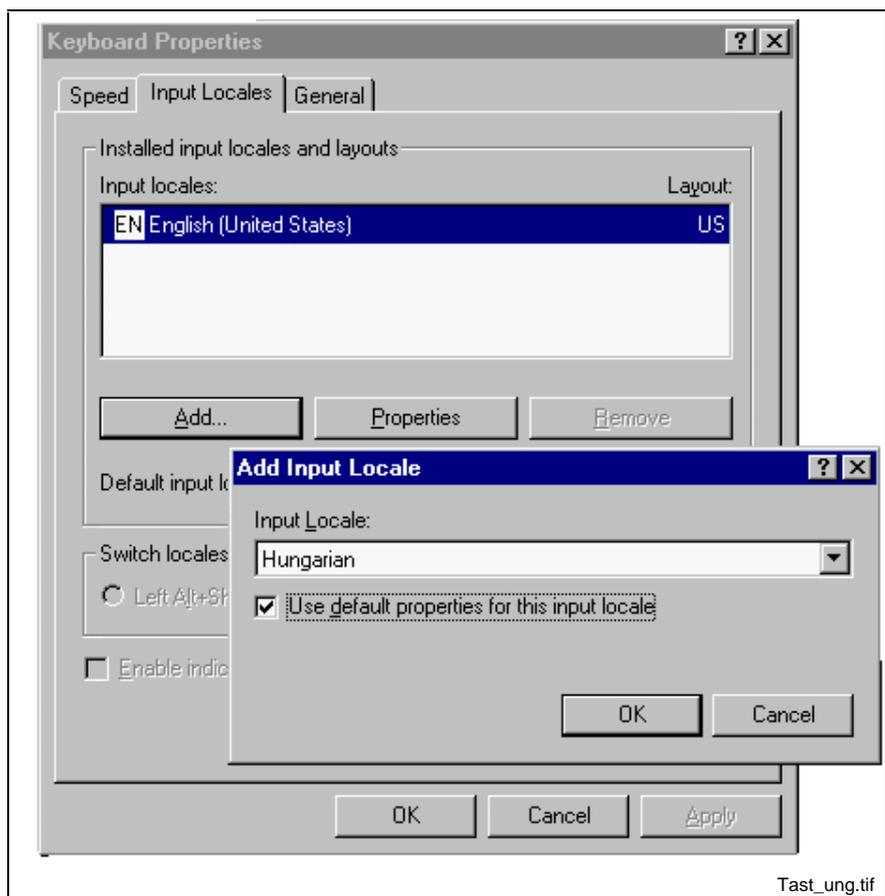

Figure 6-2: Set Hungarian keyboard
- Figure 6-2: Set Hungarian keyboard 6-4